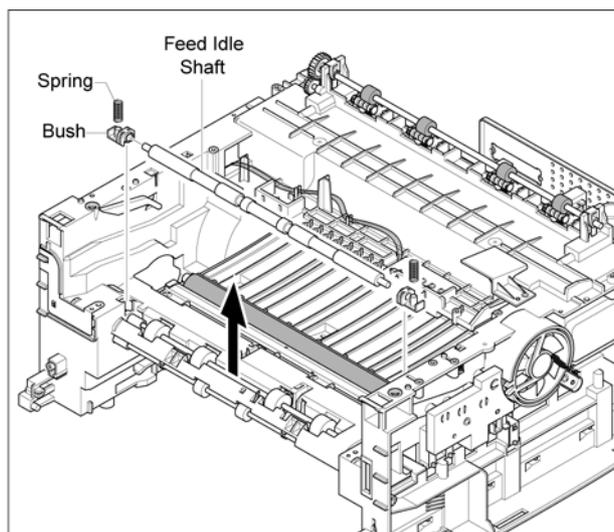

Figure 2
3. Remove the Feed Idle Bush and Feed Idle Shaft, Figure 2.